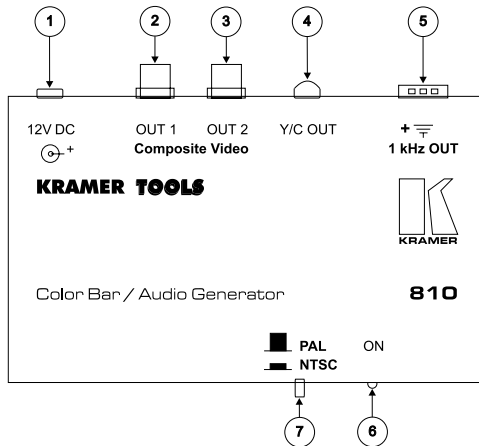

Figure 1: 810 Color Bar / Audio Generator
1 Composite video outputs on 2 BNC connectors, items 2 and 3 in Figure 1
2 s-Video (Y/C) output on a 4P connector, item 4 in Figure 1
Figure 1 and Table 1 define the **810** Color Bar / Audio Generator:
1 Item 7 in Figure 1
2 Item 1 in Figure 1